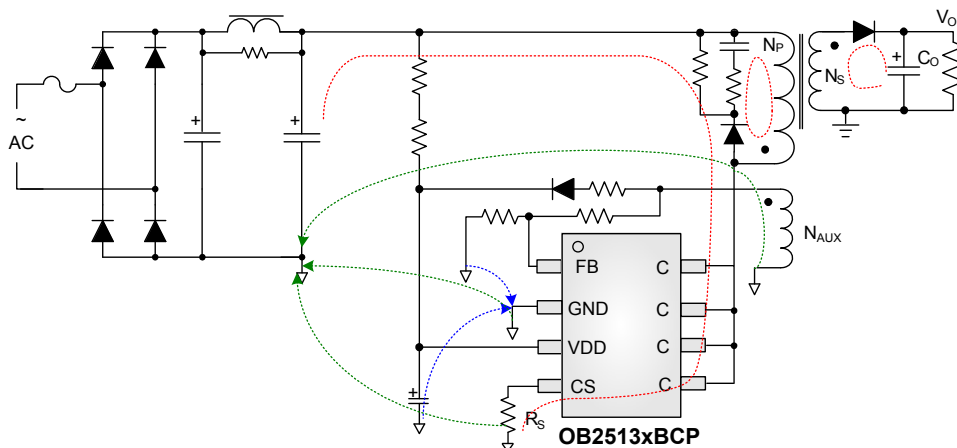
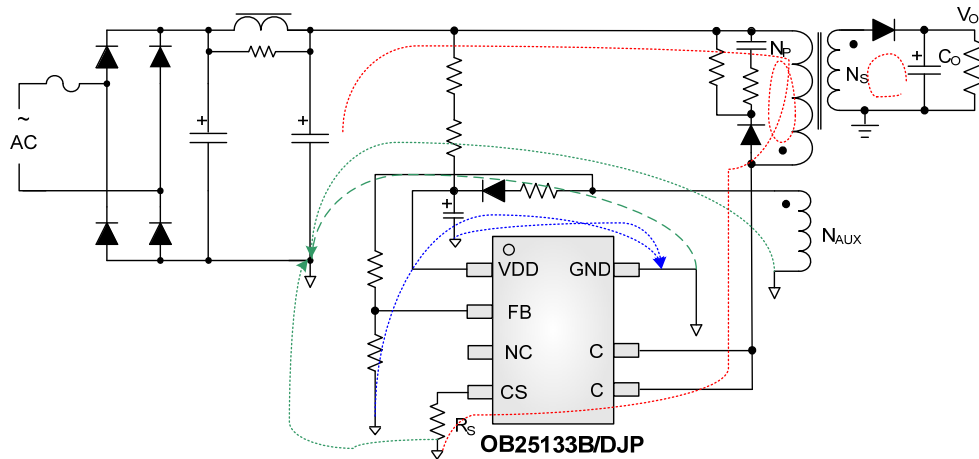
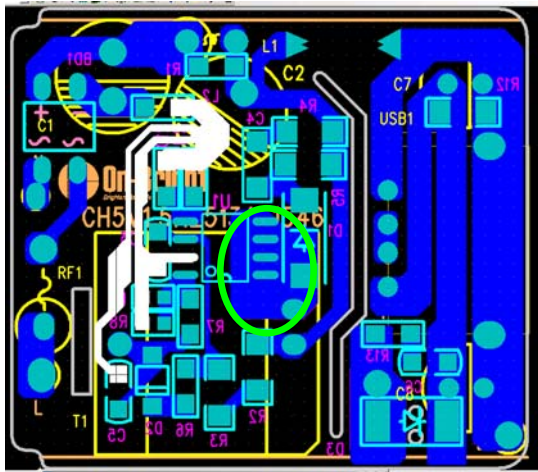

Fig.6 Flyback Schematic with OB2513xB/D
Fig.7 Flyback Schematic with OB2513B/DJP
Fig.8 Recommend PCB Layout of OB2513xB/D
- **The Area of Power Loop:** The area of the main current loop should be as small as possible to reduce EMI radiation, such as the primary current loop, the snubber circuit and the secondary rectifying loop (Red wire as shows in Fig.6&Fig.7). Drain pin increases the copper area of the drain terminal for heat dissipation (Green region as shows in Fig.8&Fig.9). And the PCB trace must be wide and short for thermal consideration.
- **Bypass Capacitor and FB divider resistor:** The bypass capacitor on VDD and the FB divider resistor should be placed as close as possible to pin out. And the negative node of VDD capacitor and the FB down resistor should be connected directly to the IC GND pin before single point connected to the negative node of the output capacitor. (Blue wire as shows in Fig.6&Fig.7)
- **Ground Path:** The GND path of the input power loop and IC controller path should be separated and connected at the negative terminal of input capacitor by single point, such as power sense resistor, the negative of the auxiliary winding and the IC GND. (White region as shows in Fig.8&Fig.9)